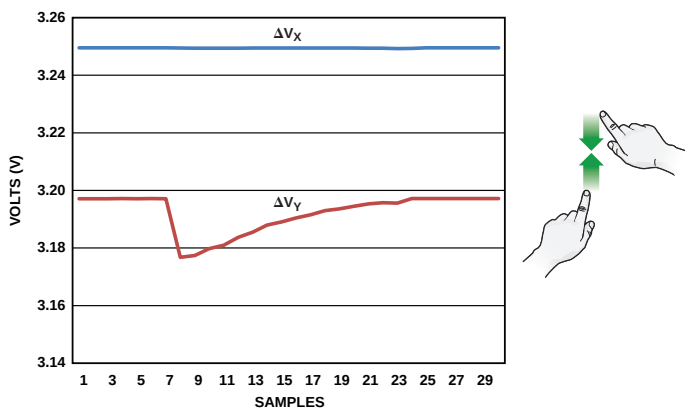

Figure 3. Voltage measurements when a vertical pinch is performed.
Figure 3 shows an example where the pinch is executed along the vertical (Y) axis. The voltage between the electrodes of one of the layers is constant while the other layer shows a step decrease when the gesture starts, followed by an increase as the fingers come closer together.